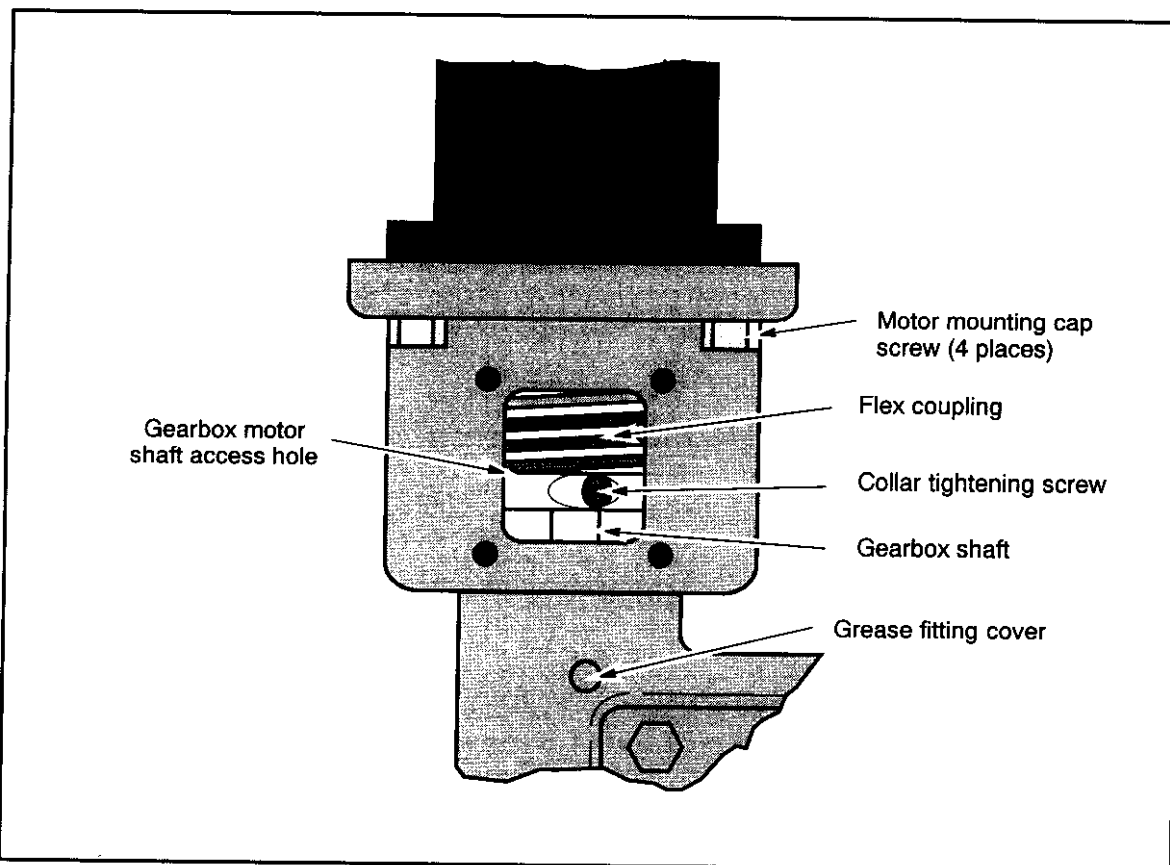

Figure 26. Azimuth Flex Coupling Access.
- e. Remove the four cap screws holding the gearbox motor shaft access cover (see Figure 26).